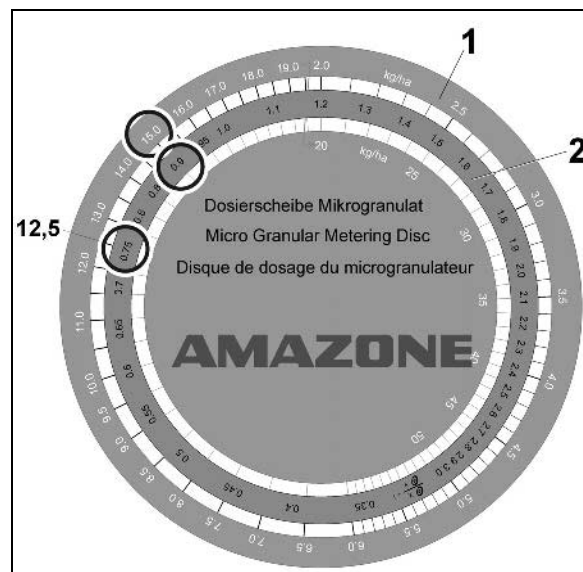

Fig. 27
11. Find the application rate value [kg/ha] on the metering disc (Fig. 27) and align with the pre-set ratio on the dial (Fig. 27/2).